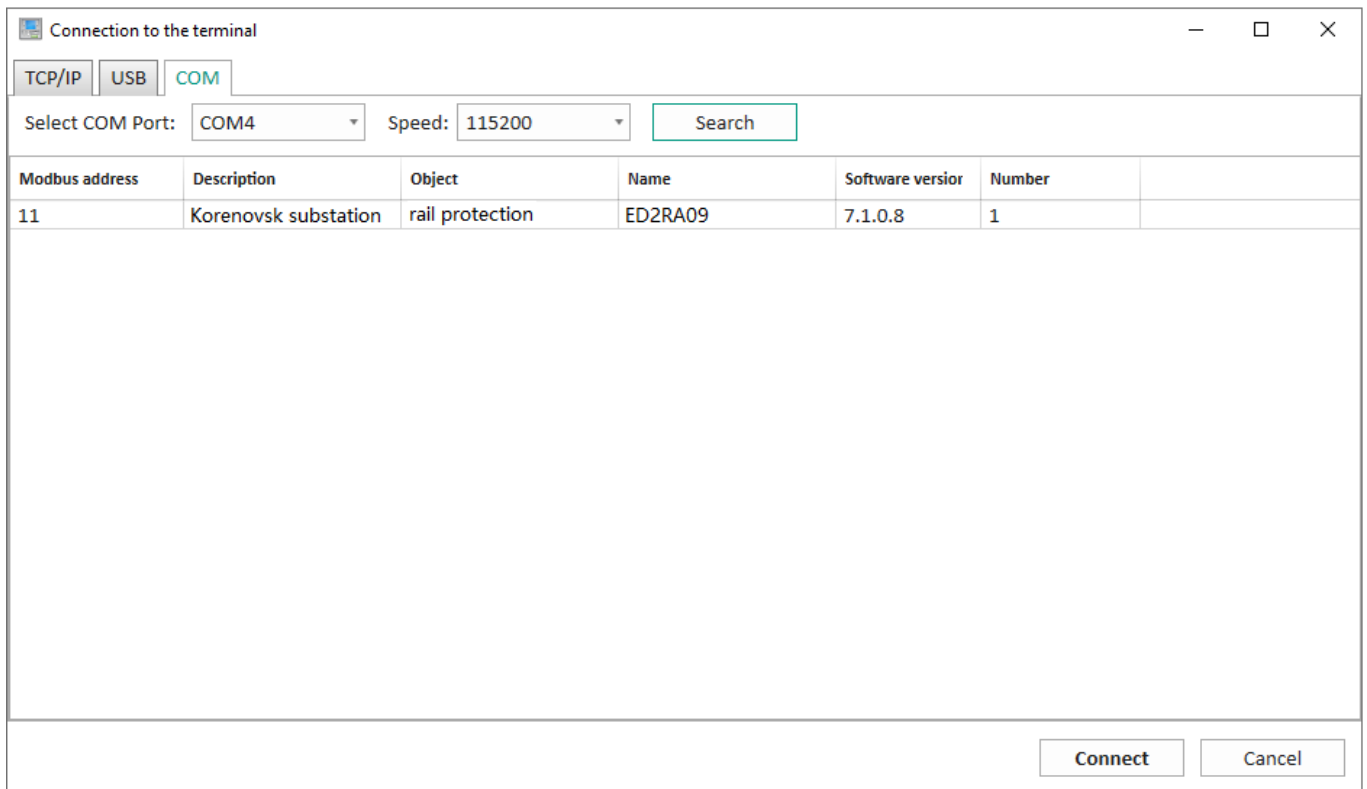

Figure 5 – **COM** tab
– **COM**. This tab (Figure 5) makes it possible to connect to the device via the COM port. To connect it is necessary to do the following: